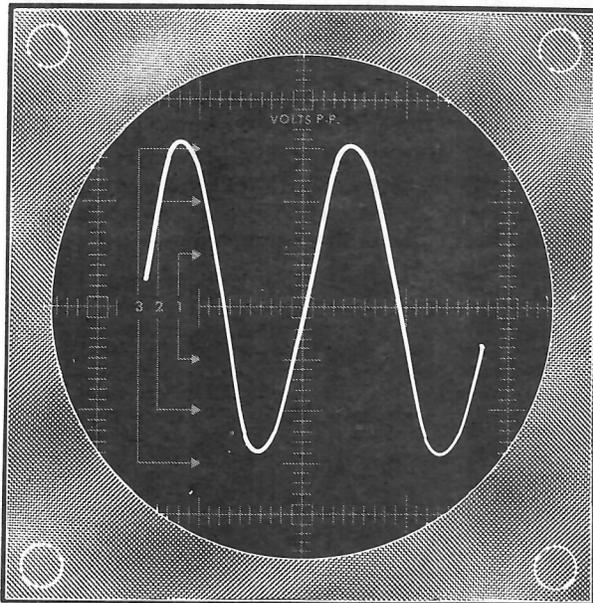

Figure 3-34
- () Turn on the oscilloscope and test chassis. Adjust the oscilloscope for a waveform as directed in Part II. You will start your adjustments with two cycles on the screen. Be sure that the 20 K Ω control on the test chassis is adjusted so that a sine wave appears such as in Figure 3-34.